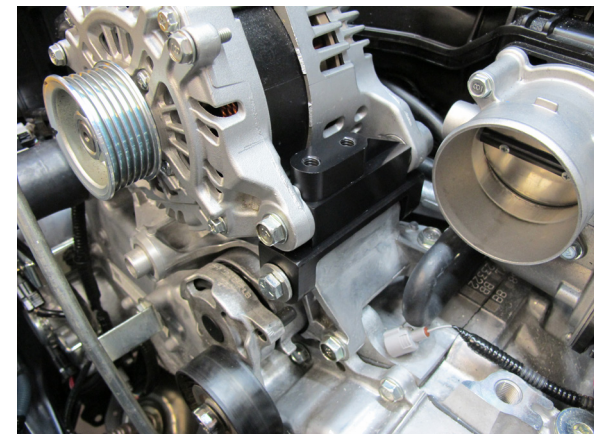

Fig. 3B
- B. Place the supplied alternator tilt bracket into position. See Fig. 3B.